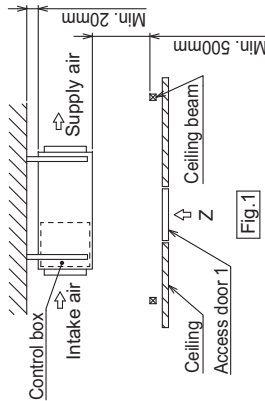

Fig.1
(1) When a space of 300mm or more is available below the unit between the unit and the ceiling. (Fig.1)